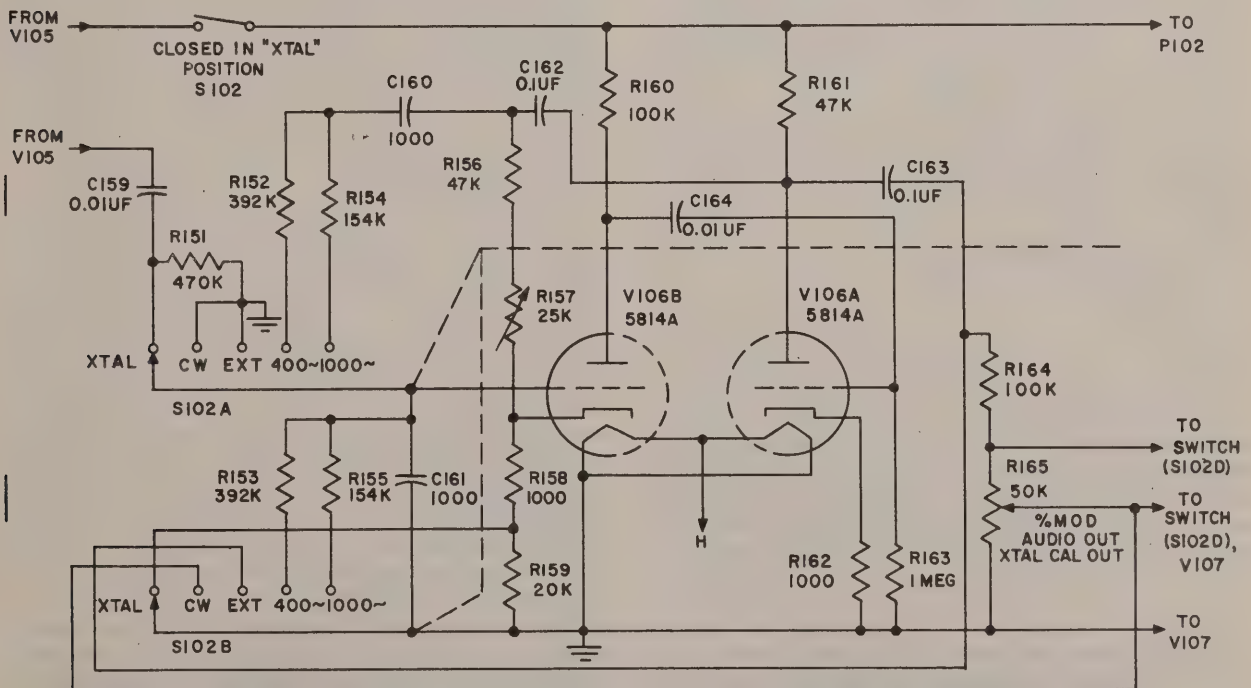

Figure 2-5. Simplified Schematic Diagram of the Modulation Oscillator
b. MODULATION OSCILLATOR (See figure 2-5).